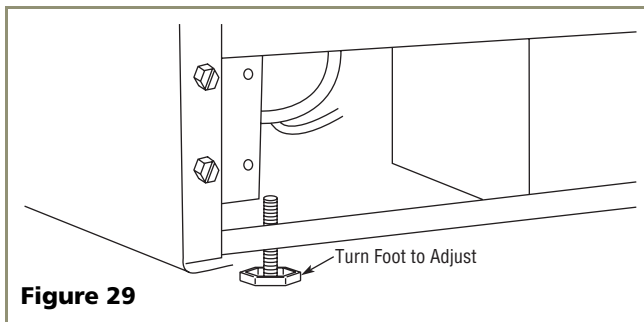

Figure 29
2. If the Beverage Center® is not level, adjust the feet on the corners of the unit as necessary (see **Figure 29**).